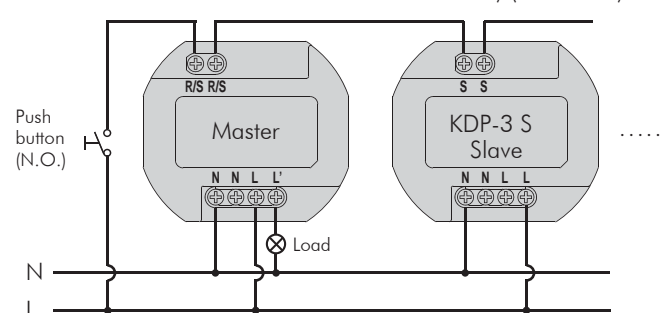
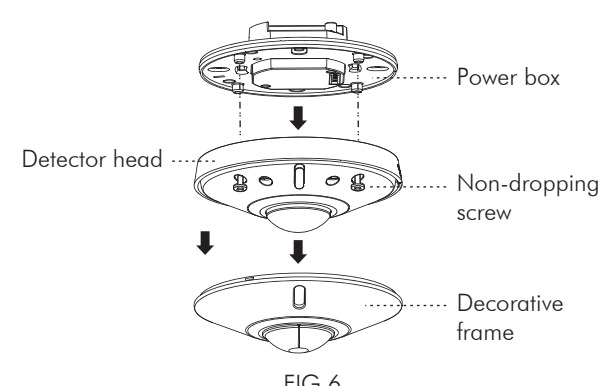
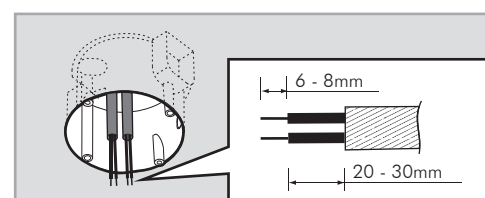
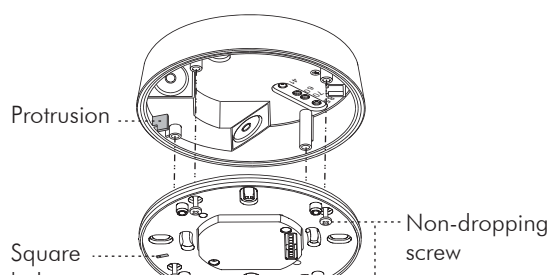

FIG.5
FIG.6
FIG.7
FIG.16
Master / Slave operation (Max. 10pcs slave detectors can be connected to R/S terminal of the master detector) (See FIG.5).
3.4.1.1 Take off decorative frame of KDP-3 S, then take the detector head apart from power box by unscrew its 4pcs non-dropping screws (See FIG.6).
3.4.1.2 Pull out AC power cables from European standard junction box (See FIG.7), then strip off 6 - 8mm of cable sheathing for wiring (See FIG.5).
3.4.1.4 Fix the detector head on power box by inserting its four non-dropping screws into the corresponding screw holes, then cover up the decorative frame (See FIG.6).
3.4.2.3 Please refer to illustration of FIG.5 for correct wiring and then screw the KDP3/5 tightly.
3.4.3.5 Refer to wiring diagrams for correct wiring connection (See FIG.5). There is a square hole in the fixing plate, when you put the fixing plate into the junction box, please fit the fillister to the junction box's protrusion (See FIG.16), then fix the detector head on the power box following FIG.6 and assemble them with the attached 4pcs non-dropping screws.